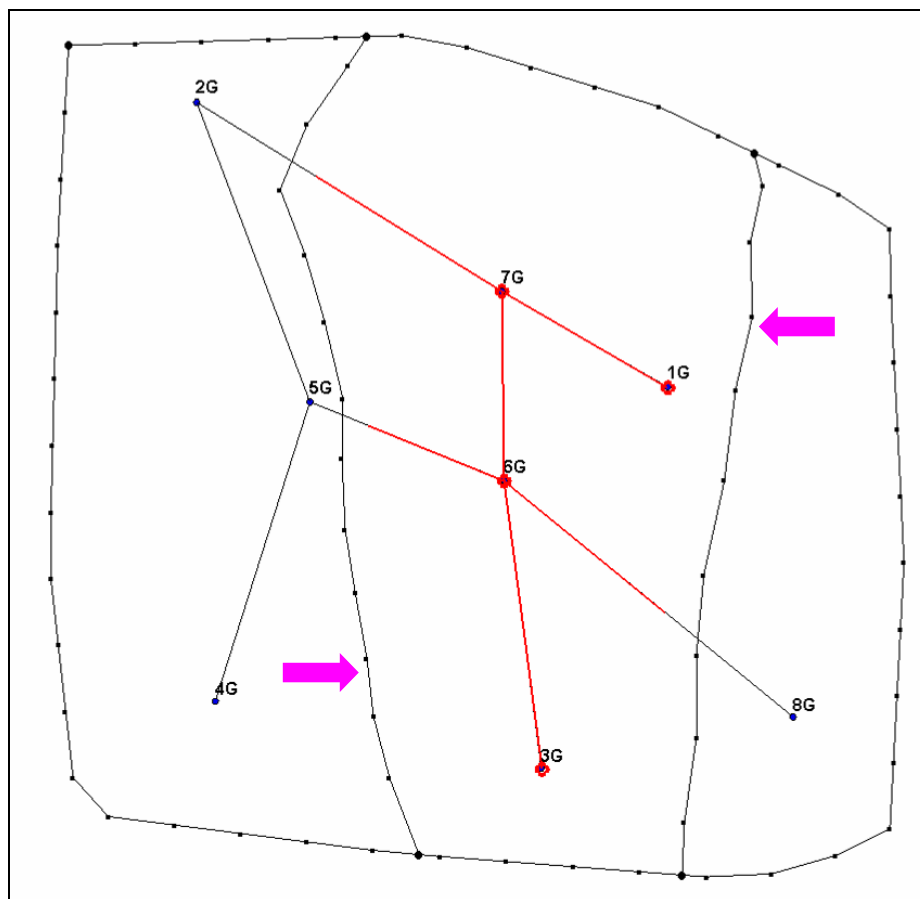

Figure 3. Arcs created in the Horizon 4 coverage (identified by the arrows).
8. Create 2 arcs similar to those identified by the arrows shown in Figure 3. Notice that the arcs surround the red highlighting on the cross sections.